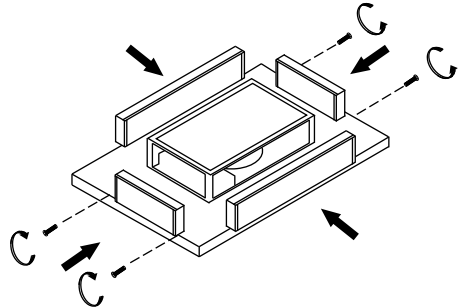

Fig 12
- If the unit is re-circulating fit the carbon filters to the top side of the unit (**Fig 12**).